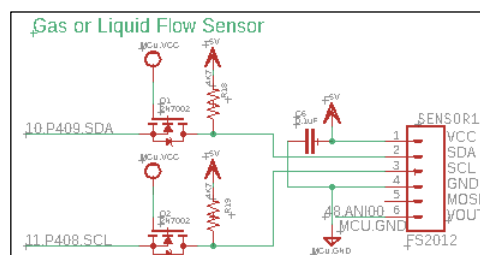

Figure 4-2 Flow Sensor Circuit
- As shown in Figure 4-2, FS2012 is not placed on the PCB directly, but connected to the PCB through Sensor 1 connector.